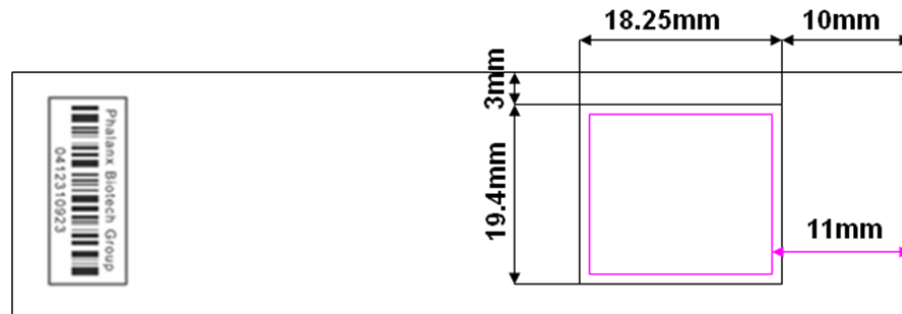

Figure 1: Mouse & Rat miRNA OneArray[®] Microarray Glass Slide with “Probe Printed Region Guide” Plastic Underlay. (One array per slide)
- 5) Place the Mouse & Rat miRNA OneArray® slide, bar code up, atop the “Probe Printed Region Guide” (included, see Figure 1).